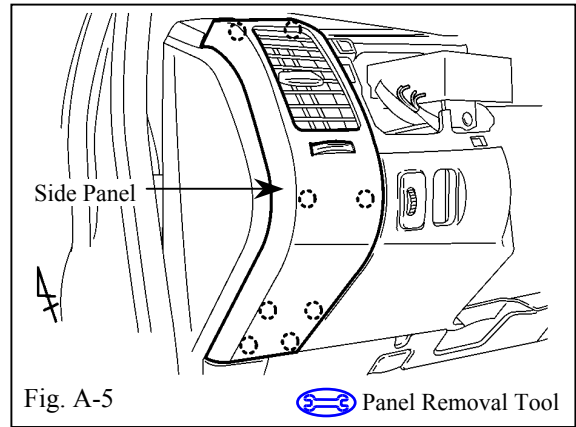

Fig. A-5
Remove the driver side vent panel by releasing the eight (8) panel clips/locator pins. (Fig. A-5)